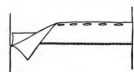

FIGURE 80
*Welt Seam* (Figure 80). — Place the two right sides of the material together and stitch  $\frac{1}{2}$  inch from the edge. Press the seam in the desired direction and cut the under edge to within  $\frac{1}{4}$  inch of the stitching.